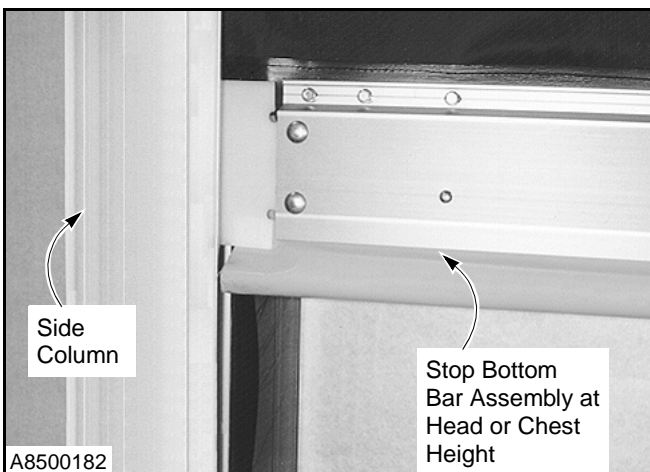

Figure 68
1. Raise or lower the door, as necessary, until the bottom bar is approximately head or chest height. (See Figure 68.)